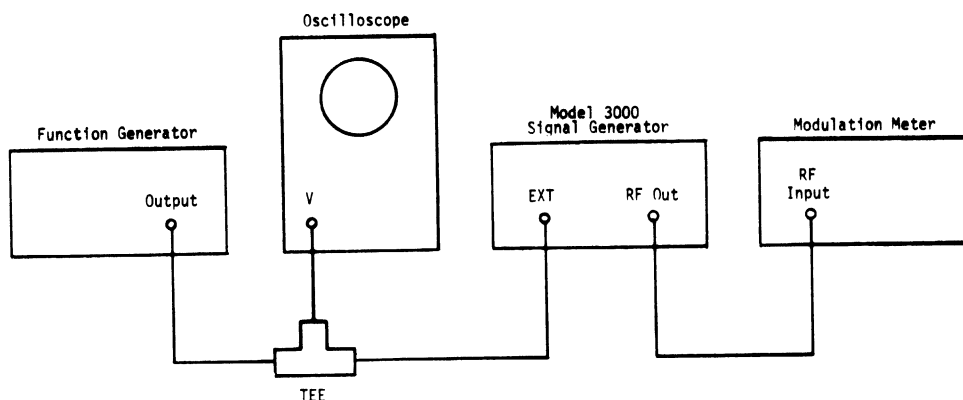

Figure 4-4. AM Bandwidth Setup
2. Connect the equipment as shown in Figure 4-4.